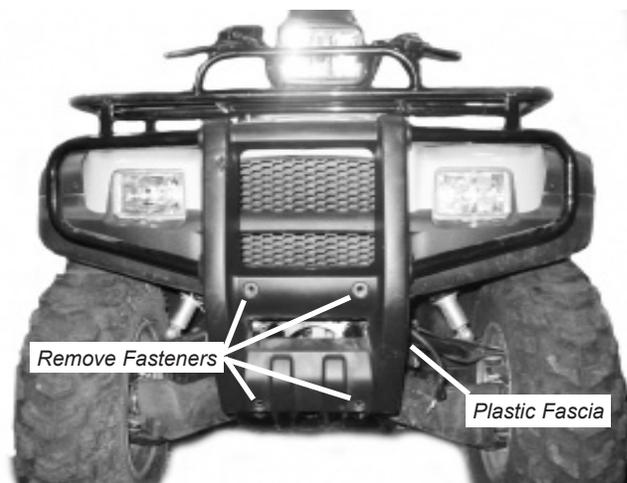

Figure 9 Remove Plastic Fascia
1. Begin by removing the plastic fascia located on the front of the ATV. Remove the four fasteners located on the base of the fascia as shown in figure 9. Save these fasteners for later use in this installation. Remove the fascia from the ATV.